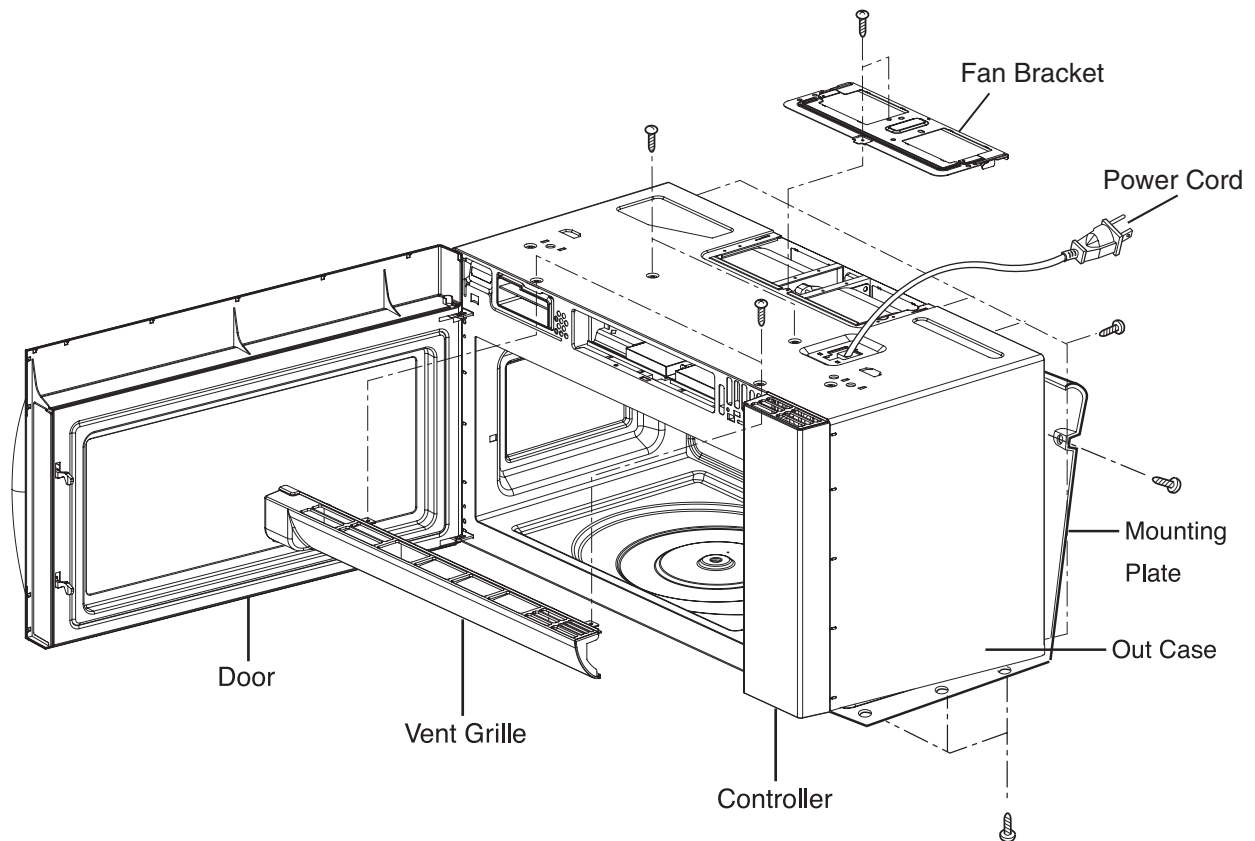

Figure 8
B. REMOVING THE OUT CASE(Figure 8)
- (1) Remove the vent grille by removing two screws securing it to the outer case.
- (2) Remove two screws securing it to the air duct.
- (3) Remove the mounting plate by turning the screws (1 or 2 screws) securing it to the outer case.
- (4) Remove two screws on the left central edge and two screws on the right central edge of the base plate.